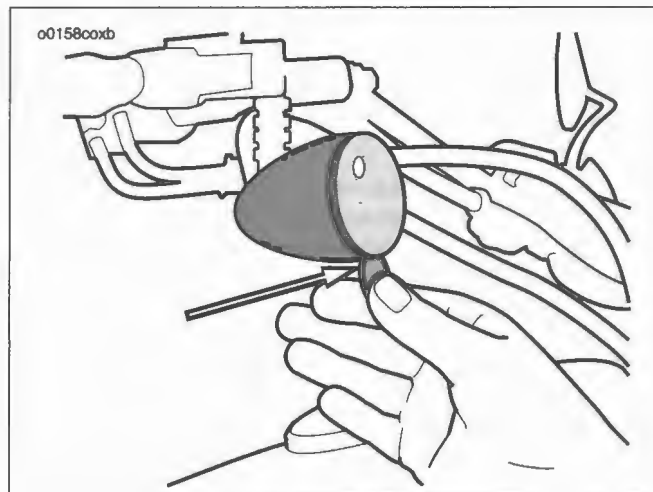

Figure 8-58. Lens Cap Removal
2. See Figure 8-58. Insert coin in notch. Carefully twist coin until lens cap pops out of turn signal housing.